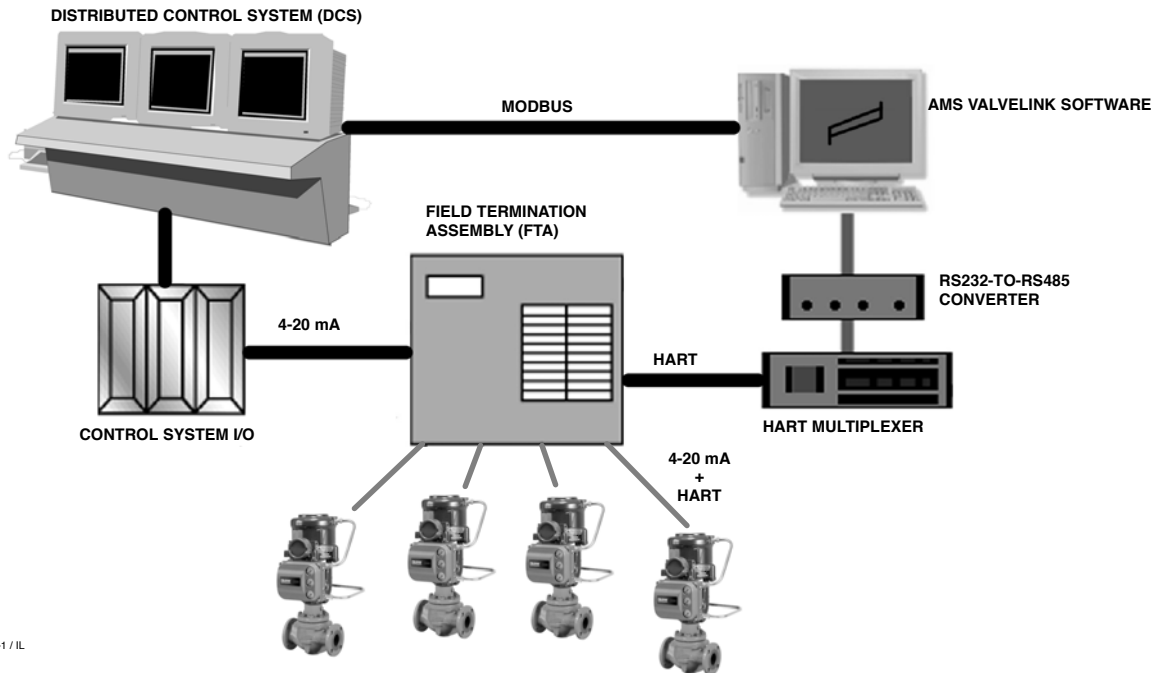

Figure 7. Integrate Information from the Digital Valve Controller into a Non-HART® Compatible Control System With AMS™ ValveLink® Software's Modbus Interface
- **Modbus with AMS™ ValveLink® Software and HART® Multiplexers**—HART communication allows you to extract more value from DVC6000 Series digital valve controllers beyond their inherent improved performance. When integrated into a multiplexer network and using AMS ValveLink Software, the device and valve information is real-time. From the safety of a control room, multiple instruments can be monitored for alerts and alarms. Additionally, tasks such as configuration, calibration and diagnostic testing do not require special trips to the field. AMS ValveLink Software can communicate via Modbus to the distributed control system (DCS) to provide critical information such as valve travel alerts and alarms (figure 7).